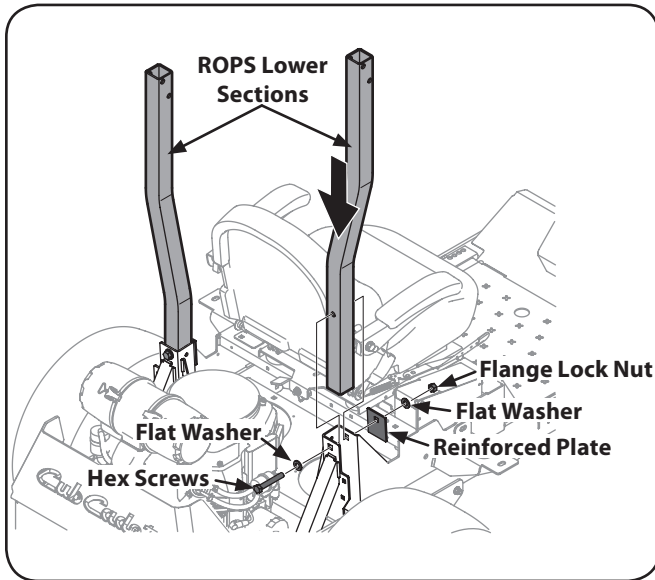

Figure 3-3
1. Insert each of the ROPS lower section tubular posts into the brackets welded to the machine main frame. See Figure 3-3.
2. Insert the hex screws (one per side) through the flat washer then into the frame brackets and ROPS posts from the rear toward the front. See Figure 3-3. Alternately from the front toward the rear if access is restricted.
3. Install the reinforced plates, flat washers and flange lock nuts, but do not tighten. See Figure 3-3.
6. Tighten the frame mounting hardware to 80-90 lb.-ft. torque. See Figure 3-3.